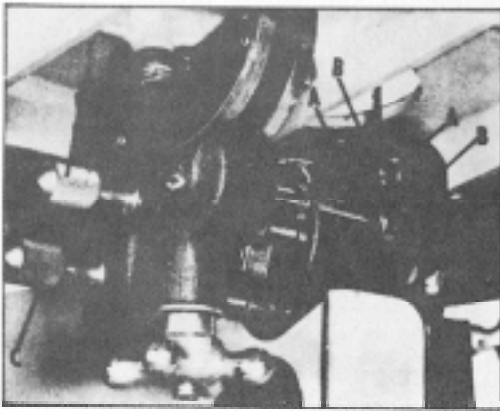

Fig. 18
1. Loosen the two screws (A) Fig. 18, and move the guides (B) as close as possible to the side of the blade being careful not to pinch the blade. Then tighten screws (A).
2. The front edge of the guide blocks (B) should be adjusted so they are just behind the gullets of the saw teeth by turning the knurled knob (C) Fig. 18.
3. The lower blade support bearing (D) Fig. 18, should be adjusted so it is about $1/64$ " behind the back of the blade by turning the knurled knob (E).